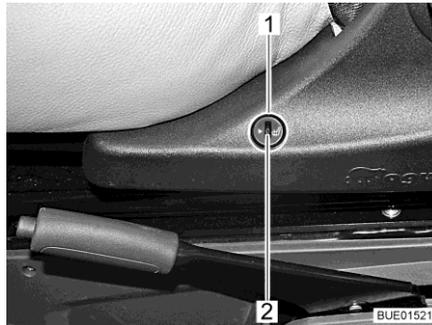

Fig. 26 Seat heater switch
Switching on the seat heater: ■ Press the lower half of the switch (Fig. 26,1) on the left side of the seat console.
Adjusting the seat heater: ■ To lower the heat output, turn the adjustment wheel (Fig. 26,2) towards "0".
■ To increase the heat output, turn the adjustment wheel (Fig. 26,2) towards "5".
Switching off the seat heater: ■ Press the upper half of the switch (Fig. 26,1) on the left side of the seat console.